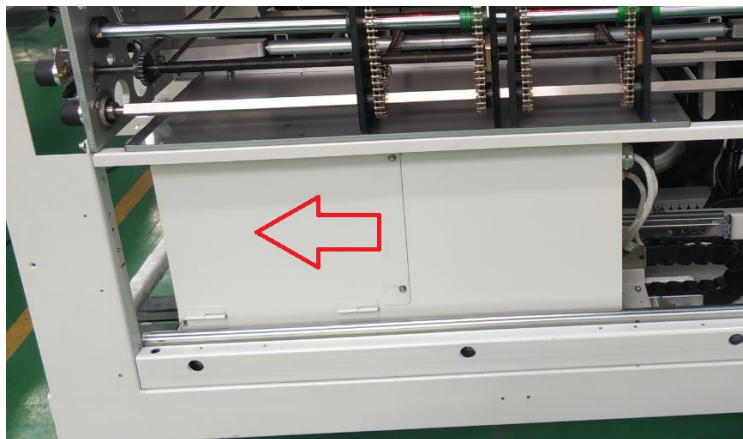

Fig 3
4. move reactor assembly to outside (see Fig 3/4), about the following location